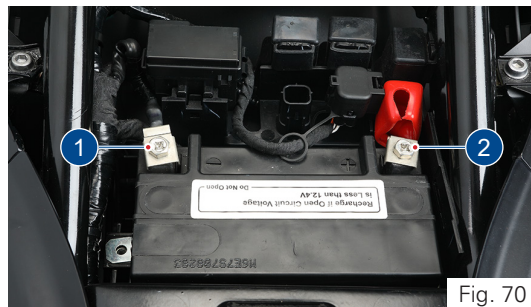

Fig. 70
- Disconnect the negative terminal (1) first followed by the positive terminal (2) (ref. Fig. 70). Carefully take out the battery.